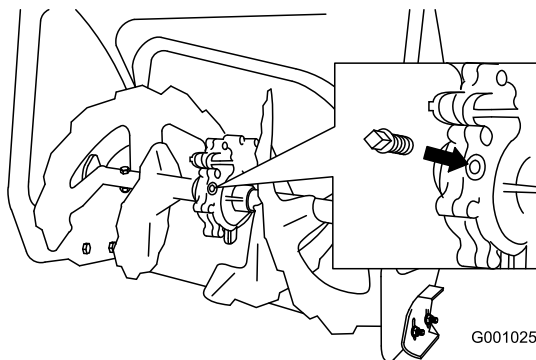

Figure 39
- Clean the area around the pipe plug (Figure 39).